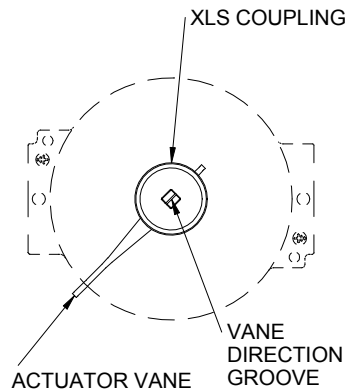

FIGURE 4 - VANE GROOVE
6. Close mount units: Fixing screws supplied. Only use replacement parts supplied by Kinetrol. To mount on 03 actuator insert SP1604, to mount on 05 actuator insert SP1602 into XLS coupling drive square, attach mount plate to actuator then XLS to plate as shown overleaf (figures 1 & 2), ensure the coupling groove is inline with the vane blade to reduce wear (see figure 4).